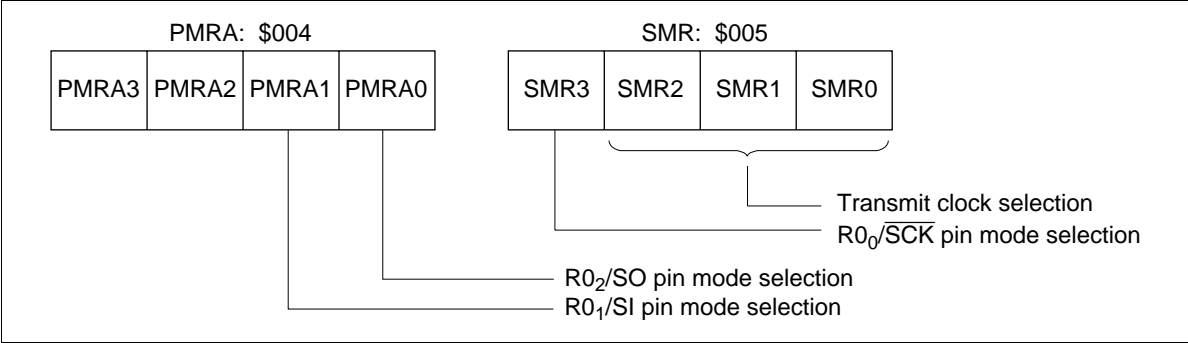

Figure 32 Configurations and Functions of the Mode Registers
**Serial Mode Register (SMR: \$005):** The 4-bit write-only serial mode register controls the  $R0_0/\overline{SCK}$ , prescaler divide ratio, and transmit clock source (table 26, figure 32).